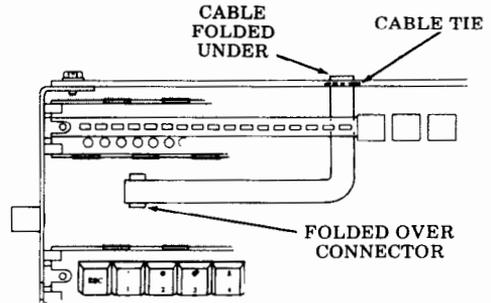

Fig. 28—Cable Routing
- (a) Insert new cable connector into circuit card holes and press into place. Route cable as shown in Fig. 28. Hold cable connector in place and resolder.
- (b) Fold the cable under the circuit card and fasten to the circuit card using a cable tie. See Fig. 28.